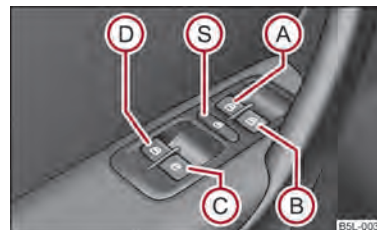

Fig. 19 Buttons on the driver's door
The buttons for the individual windows are located in the armrest of the driver's door → fig. 19, front passenger seat and in the rear doors → page 40.
You can deactivate the buttons for power windows at rear doors by pressing the safety pushbutton Ⓢ → fig. 19. The buttons for power windows at rear doors are activated again by pressing the safety pushbutton Ⓢ again.
- It is recommended to deactivate the electrically operated power windows in the rear doors (safety pushbutton) Ⓢ → fig. 19 when children are being transported on the rear seats.